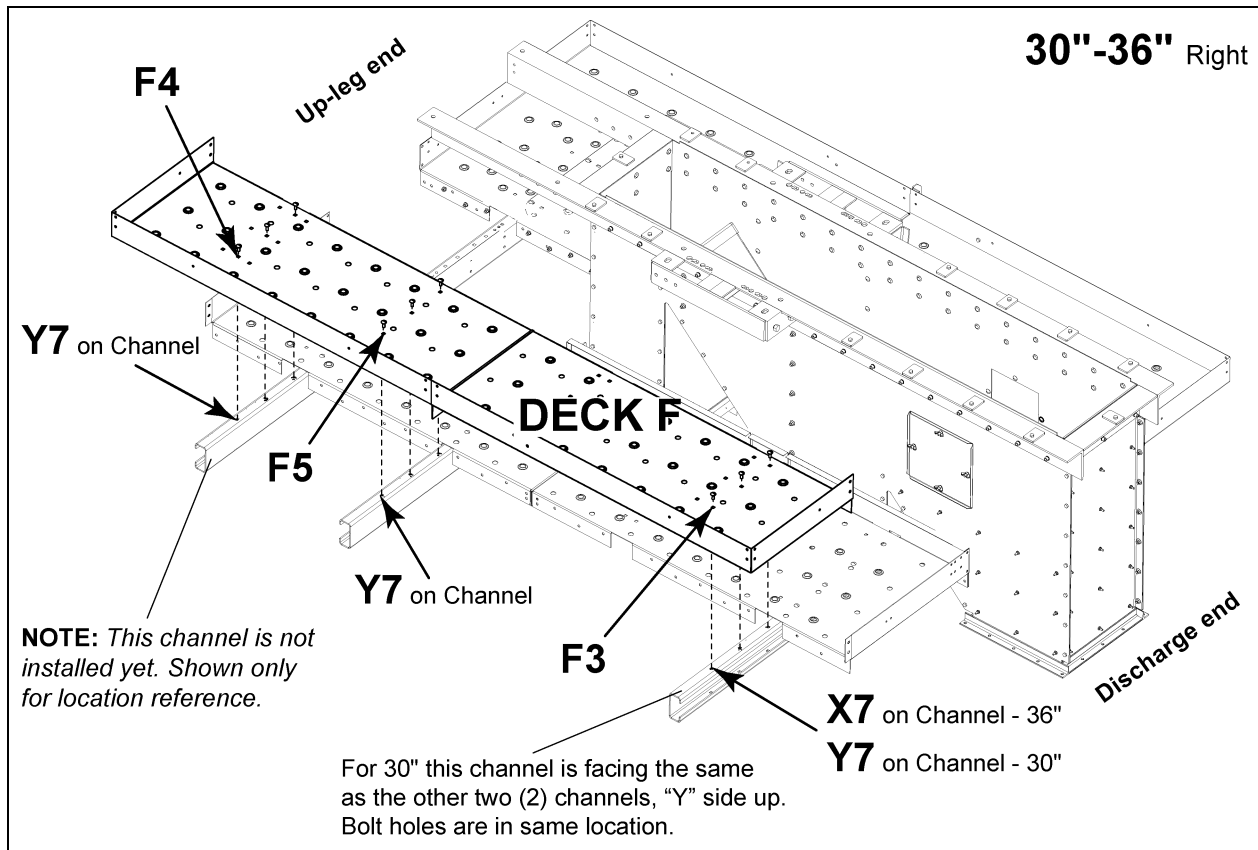

Figure 8L Deck F to Cross Deck Support Channel
1. Locate pre-assembled Deck F. This deck consists of two (2) planks.
2. Orient Deck F with hole **F3** at the discharge end of the lower head and **F5** at the up-leg end. *(See Figure 8L.)*
(See Figure 8L on Page 71.)